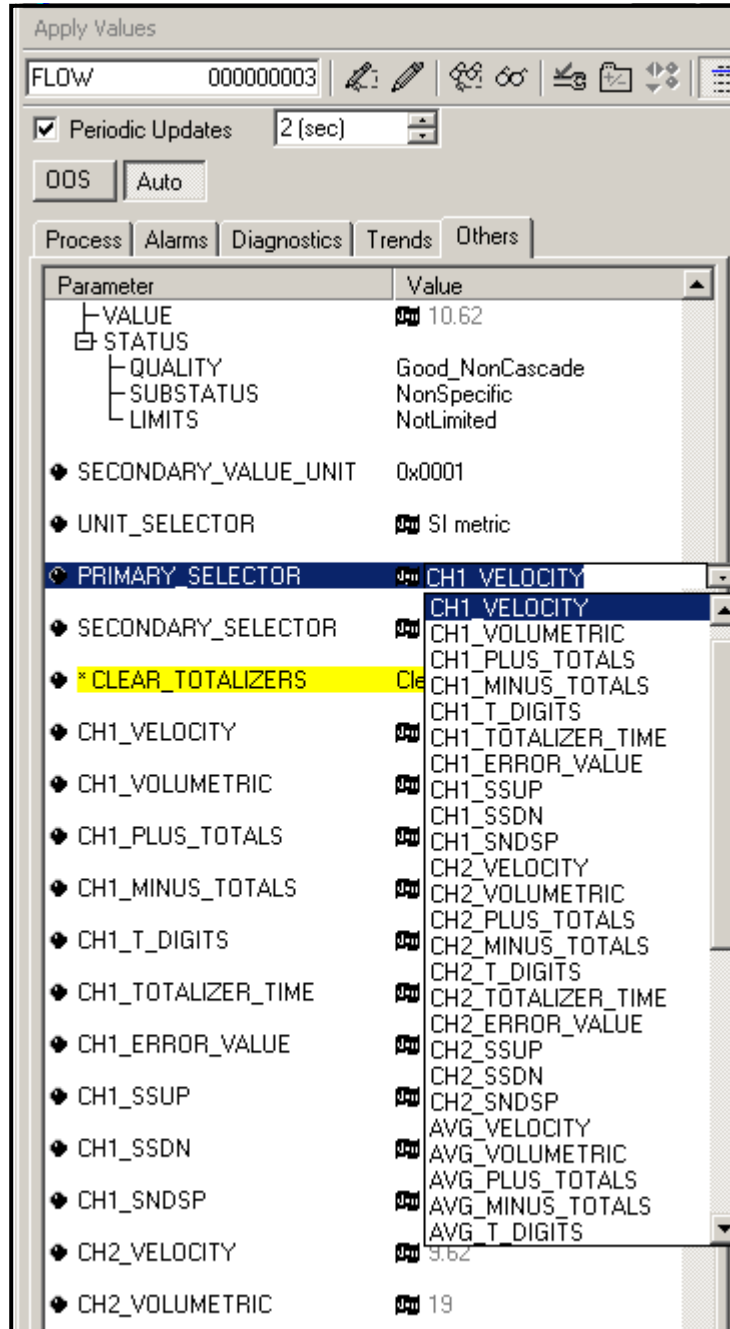

Figure 60: Primary Selector Drop Down List
2. Select the **Others** tab and open the drop down list for the PRIMARY_SELECTOR and SECONDARY_SELECTOR (refer to Figure 60 on page 115).
3. Choose the unit from the list (see Figure 60 on page 115).
- After the desired measurements have been selected for the PRIMARY and SECONDARY SELECTOR, choose the unit system (UNIT_SELECTOR above the PRIMARY_SELECTOR) that was programmed in the flowmeter (English or SI), as shown in *Figure 60* below.